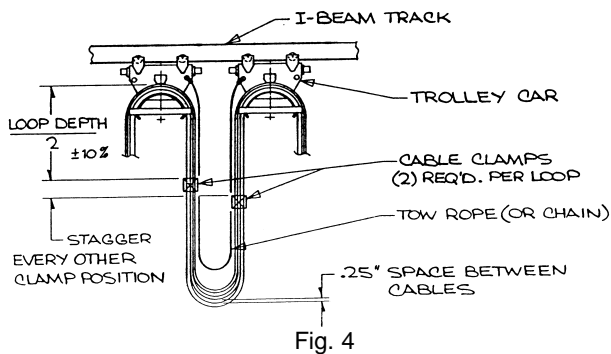

Fig. 4
1. Cable packages having three or more layers require a cable tie or clamp. Two clamps per loop are needed and must be located halfway down each side of the loop. (Fig. 4)
1. Tow chains (or tow ropes) are installed at each loop position and attached to the adjacent trolleys through the hole at the lower corner of the car body. The chain (or rope) must not be twisted. (Fig 4)